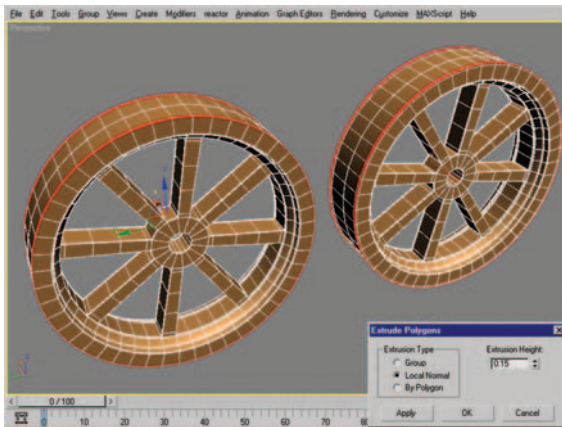

Figure 8.112 Polygon selection (left) and resulting mesh after extruding the selection (right).
23. Select the two rows of polygons seen in Figure 8.112 (left) and use the Extrude settings with an Extrusion Height of 0.15 and Local Normal checked to create the result seen in Figure 8.112 (right). *Note: To select the polygons you can make an edge-ring selection and convert it to a polygon selection. See Selections and Conversions in Chapter 3.*